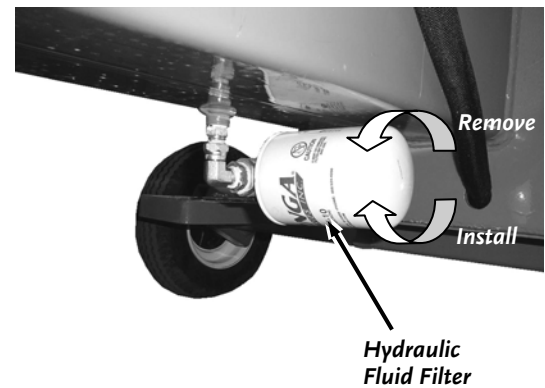

Figure 37
3. Remove the existing Hydraulic Fluid Filter and properly dispose of it (**Figure 37**).